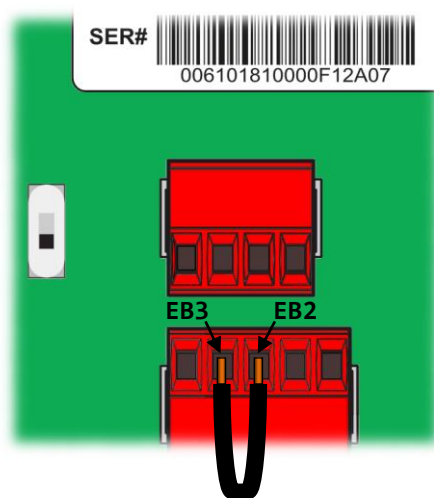

Figure 18: Cable Bridge EB2–EB3
2. Install a cable bridge between EB2 and EB3 as shown in Figure 18 below.